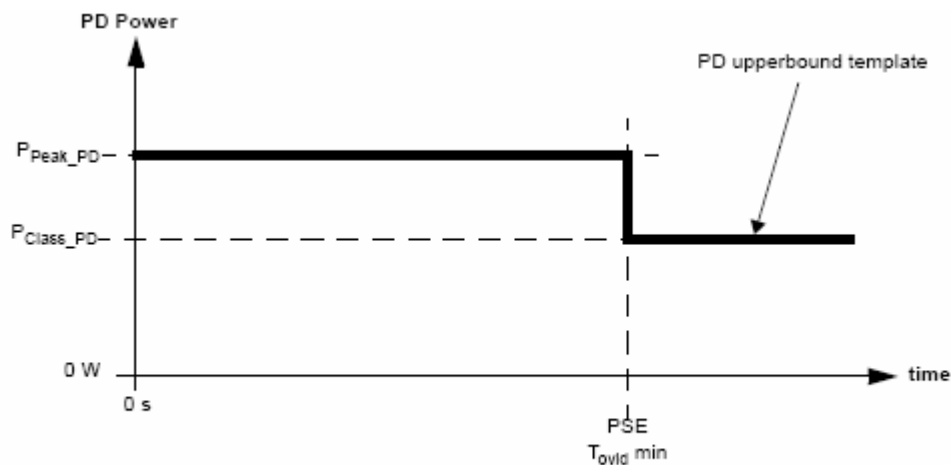

Figure 33-20—PD static operating mask
[1] IEEE DraftP802.3at™/D3.3: Subclause 33.3.7.5, Figure 33-20, Table 33-18
**Discussion:** With a static input voltage at the PI, after inrush, the PD should limit the transient current draw. The transients should not exceed  $15\text{mA}/\mu\text{s}$  for either polarity. These transients should not exceed  $P_{\text{Peak\_PD}}$  and also must not exceed  $P_{\text{Class\_PD}}$  for longer than  $T_{\text{ovld min}}$  per figure 33-20.
- b. In step 2 the current draw should be less than the PD static operating mask as defined in Figure 33-20.
[2] IEEE *DraftP802.3at™/D3.3*: Subclause 33.3.7.6, Figure 33-20, Table 33-18, Equation 33-13.
- a. In step 3, the PD input current shall not exceed the PD upperbound template per Figure 33-20.